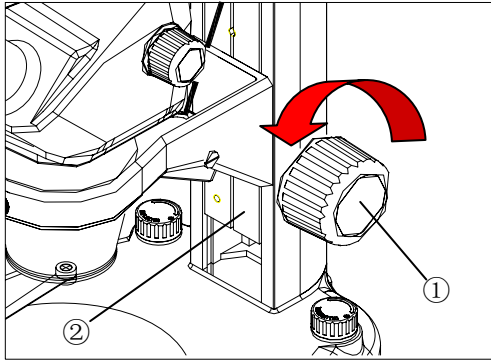
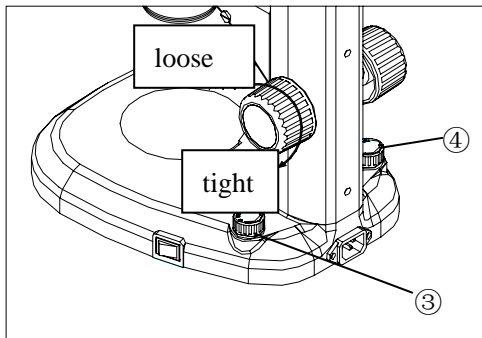

Fig 7
Fig 8
3.2.1. focusing knob adjustment (fig7、fig8)